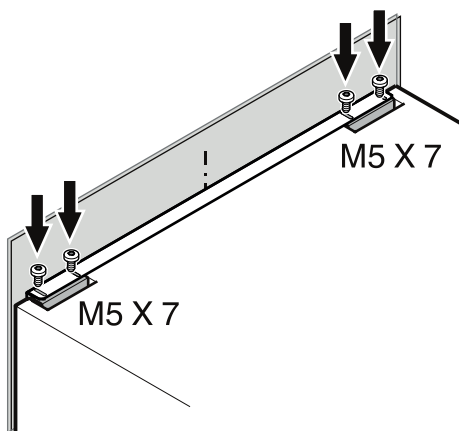

Figure 19
4. Secure the appliance with M5 x 7 screws (Figure 19).